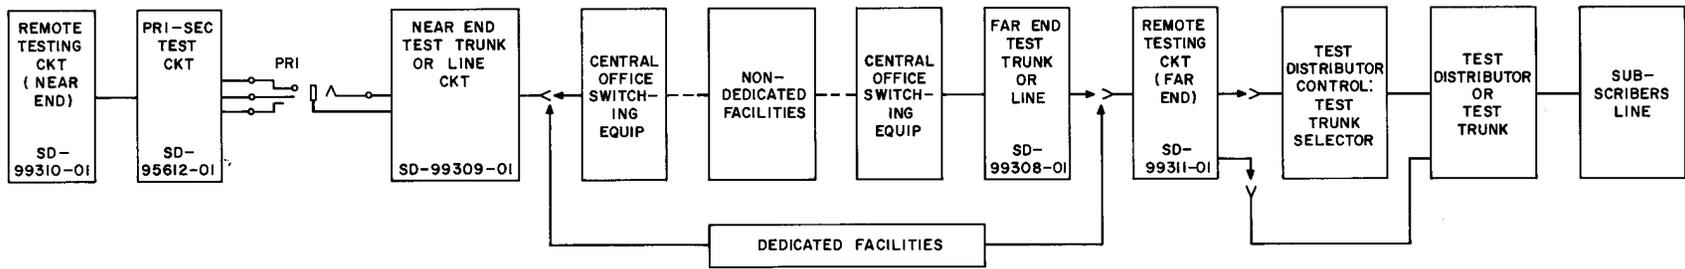

Figure 1
***Nondedicated Transmission Path:*** The connection is set up by using one of the out-trunk keys to dial the telephone number assigned to remote testing in the distant office. This triggers a dialer at the far end which dials the telephone number associated with a test trunk at the LTD. When the connection completes, the trunk will trip ringing and its supervisory lamp will flash as an indication for the tester to plug in with the primary test cord. (See Figure 1.)
***Dedicated Transmission Path:*** The test connection is established when the tester plugs the primary test cord into the jack of an idle remote test trunk. (See Figure 1.)